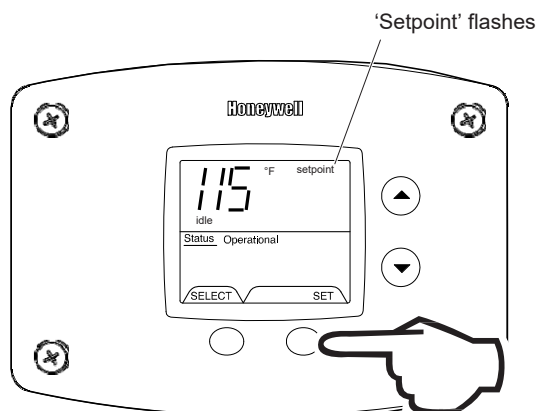

Fig. 61
2. Press the 'Set' button to enter the setting mode. 'Setpoint' will flash in the water heater display (Fig. 61).